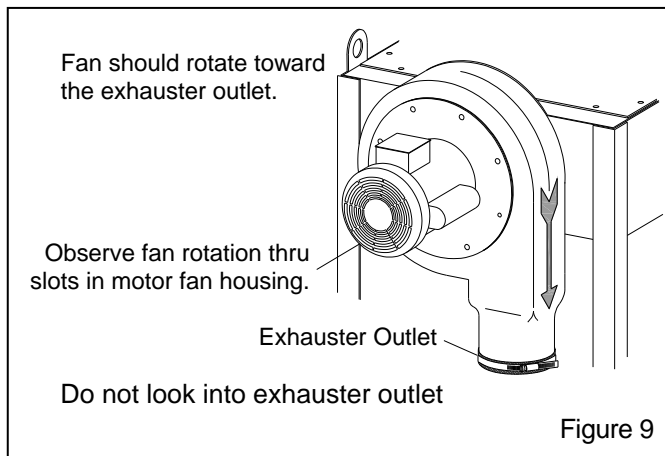

Figure 9
**2.10.1** After wiring is completed, observe the following warning and check the motor rotation. To check rotation, jog the starter (momentarily turn switch ON and OFF). This causes the motor to rotate slowly. Look through the slots in the motor fan housing, where rotation of the fan can easily be observed. Proper rotation is indicated by the arrow on the exhaustor housing; the fan should rotate toward the exhaustor outlet as shown in Figure 9.